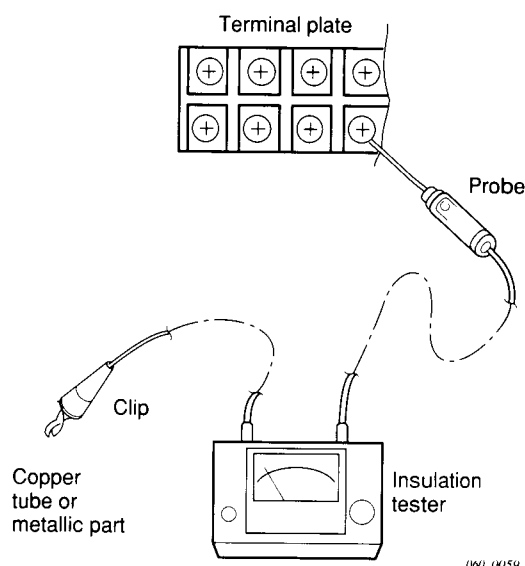

Fig. 41
Clamp an aluminum plate fin or copper tube with the lead clip of the insulation resistance tester and measure the resistance by placing a probe on ①, and then ②, and then ③ on the 6P terminal plate (Fig. 41)
Measure the resistance on ⑤ and then ⑥, and then ⑦ on the 8P terminal plate in the same manner as explained above (2). (Fig. 41)